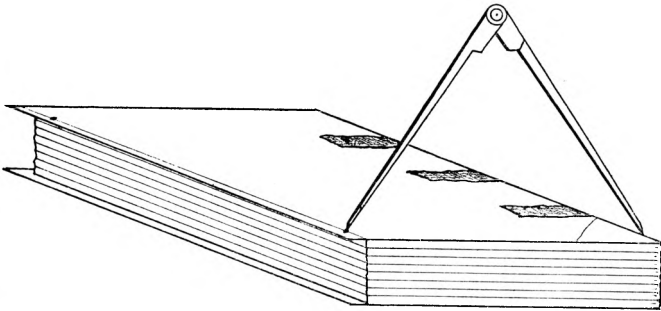

Fig. 54
31. Draw a line along the fore-edge of the endpaper parallel with the back of the book. Do this by stepping off equal distances with the dividers at the head and tail, fig. 54. Draw identical lines on both the front and back